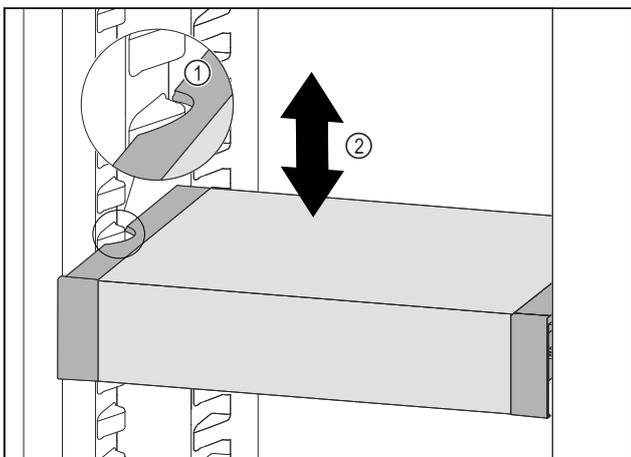

Fig. 94
- ▶ Pull VarioSafe forwards until the recesses in the side of the VarioSafe are at the level of the support rib in the refrigerator compartment. Fig. 94 (1)
- ▶ Move VarioSafe up or down in the refrigerator compartment until the desired height is reached. Fig. 94 (2)